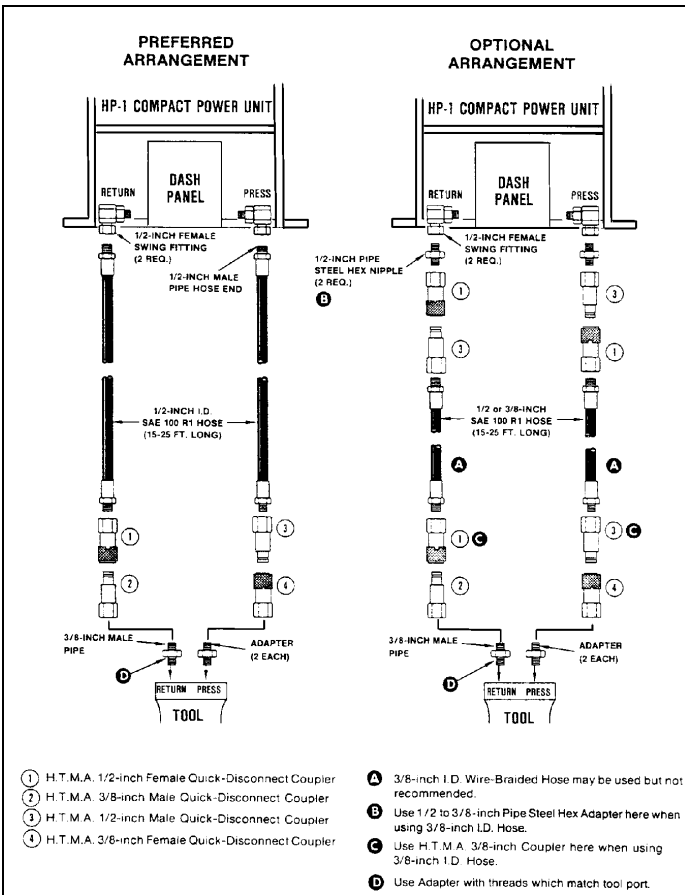

Fig 6-2-2 Hydraulic Connections
- f. connect the tool to the power unit (Fig 6-2-2).